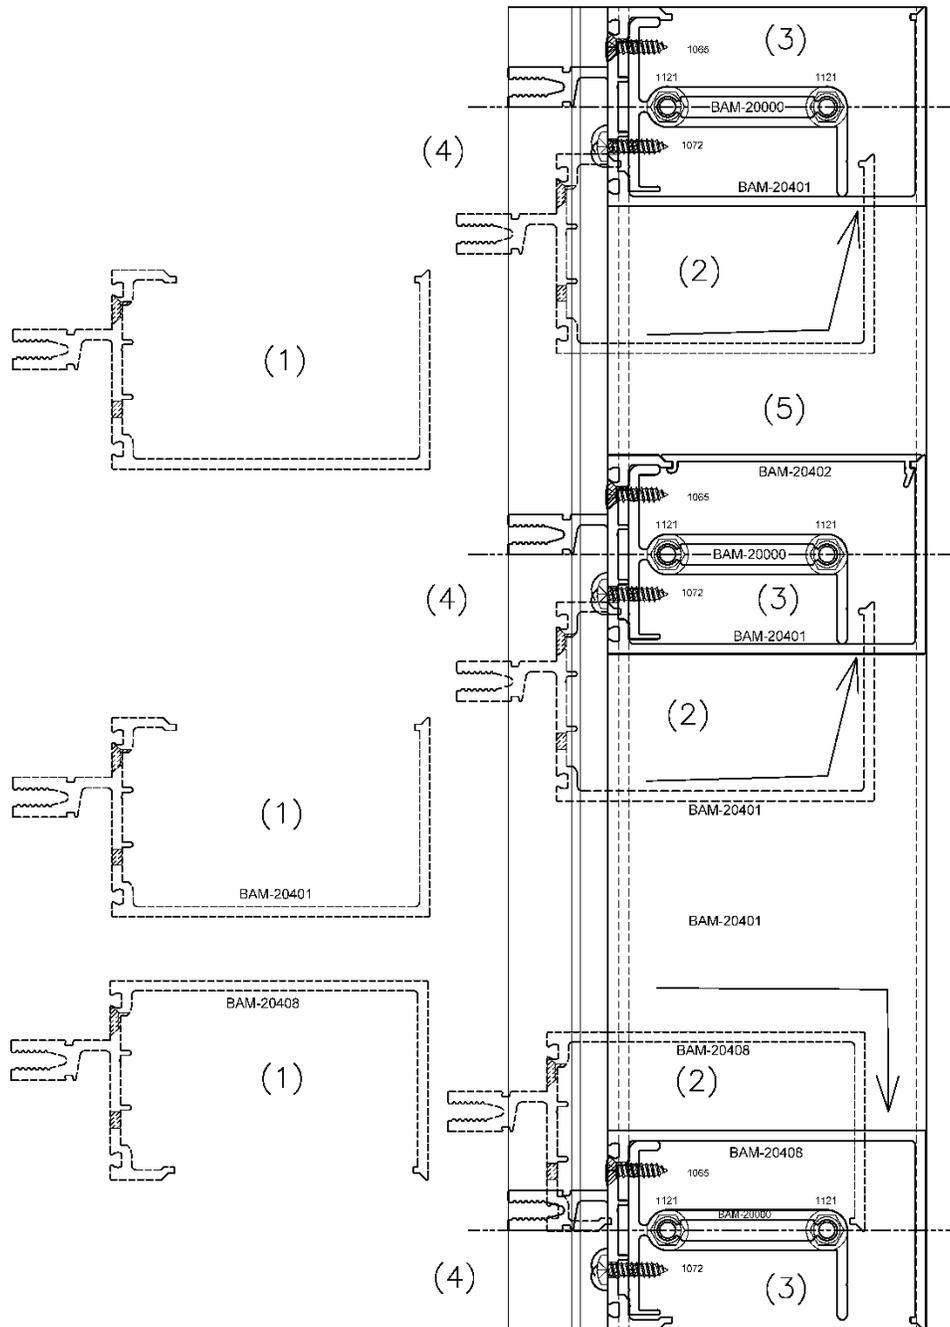

FIGURE H.1
➤ Installation of Outside glazed <or> SSG horizontals: (FIGURE H.1)
5. Install cover where open back horizontal is exposed. (FIGURE H.1)